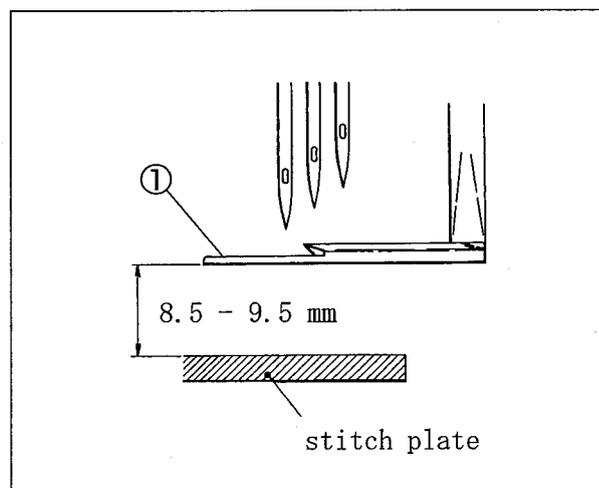

Fig. 6-6
- (4) Make the height from the surface of the stitch plate to the bottom of the spreader to 8.5 - 9.5 mm. Then tighten the screw ③ securely. (Fig. 6-6, 6-7)